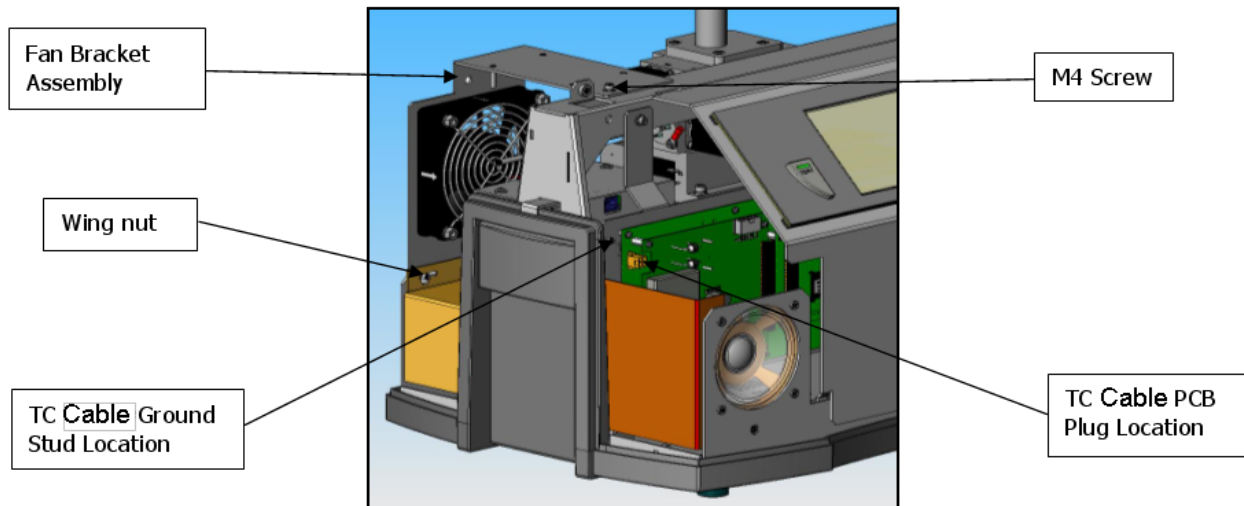

Figure 2: Fan and TC Gauge Assemblies
5. Disconnect the fan cable and remove the fan assembly by unfastening two wing nuts and one M4 socket head cap screw (Figure 2: Fan and TC Gauge Assemblies).
- c. Detaching the cable plug from the mother board PCB and disconnecting the ground cable from the chassis (Figure 2: Fan and TC Gauge Assemblies).
- f. Attaching the cable plug and the chassis ground to the location (Figure 2: Fan and TC Gauge Assemblies).
8. Attach the fan assembly (Figure 2: Fan and TC Gauge Assemblies) by fastening the two wing nuts and one M4 socket head cap screw. Then connect the fan cable to the unit.